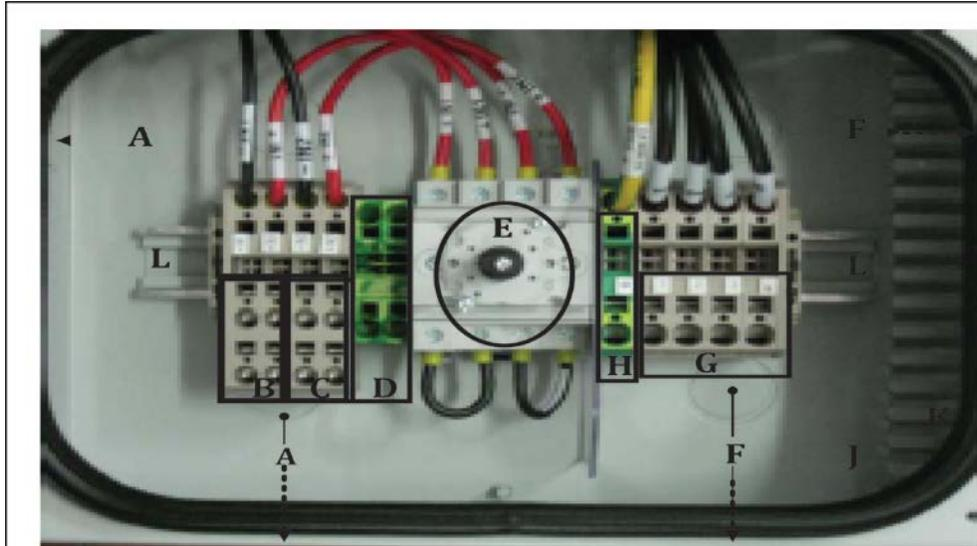

Figure 2.04 - Switchbox Wiring Connections Details PVI-10/12-I-OUTD-S-US/CAN-XXX-YY
To access the wiring components inside the switchbox shown in Figure 2.04, loosen the four cover panel captive screws shown in Figure 2.02, and remove the cover panel.
- Relevant wiring connections are shown in Figure 2.03 and Figure 2.04.